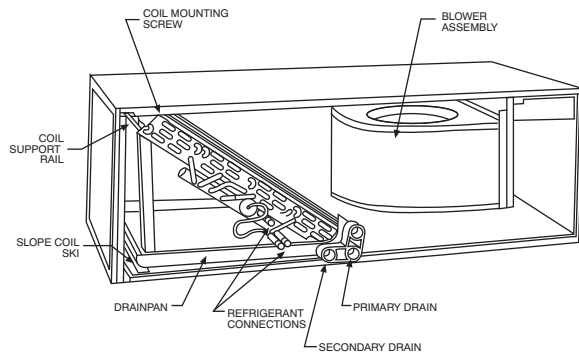

Fig. 4 - Conversion for Horizontal Right Applications
1. Remove blower and coil access panel and fitting panel. (See Fig. 4.)
4. Lay fan coil unit on its right side and reinstall coil assembly with condensate pan down. (See Fig. 4.)